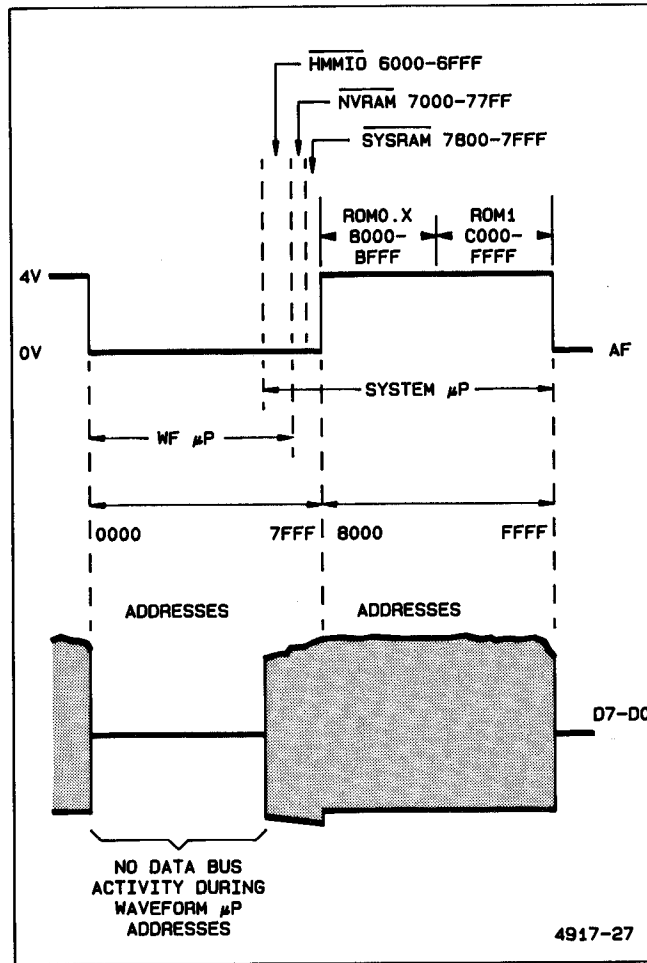

Figure 6-10. System μP data bit D7 in the Bus Isolate mode.
3. Check that no data bus activity is occurring during the Waveform μP address space (see Figure 6-10 to compare against). Faulty address decoding can cause response from an incorrectly addressed device.